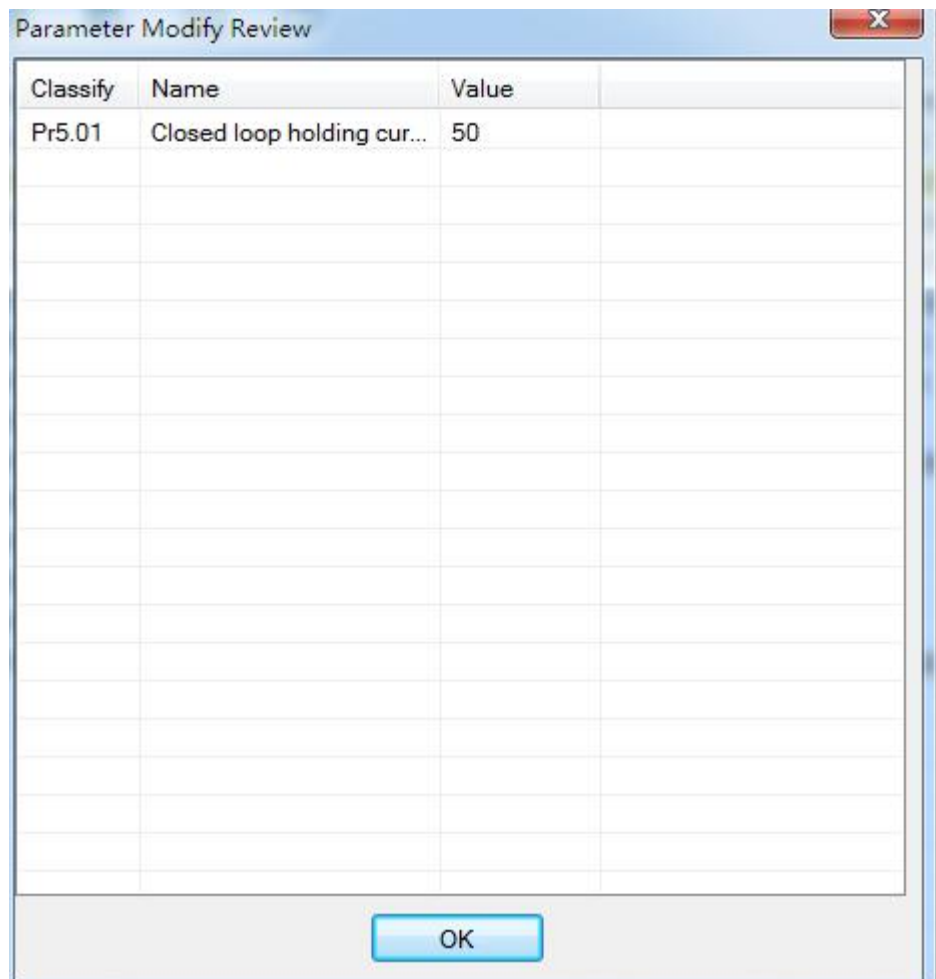

Figure 14: Write to drive confirmation message
- Click the icon on the parameter manage. A confirmation will be popped up to confirm the modified parameters and download them to the drive as shown in Figure 14.